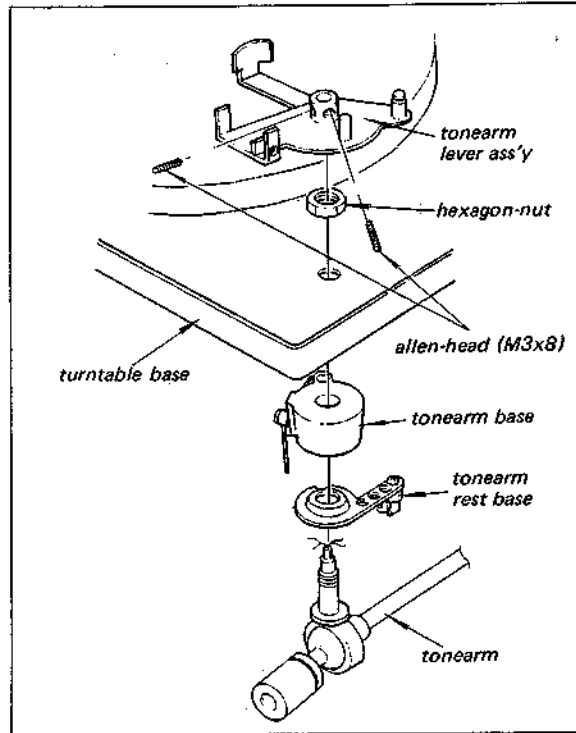

Fig. 2-18. Tonearm replacement
5. Remove the tonearm lever ass'y by loosening the two allen-head screws as shown in Fig. 2-18.
6. Remove the hexagon nut securing the tonearm to the turntable base as shown in Fig. 2-18.